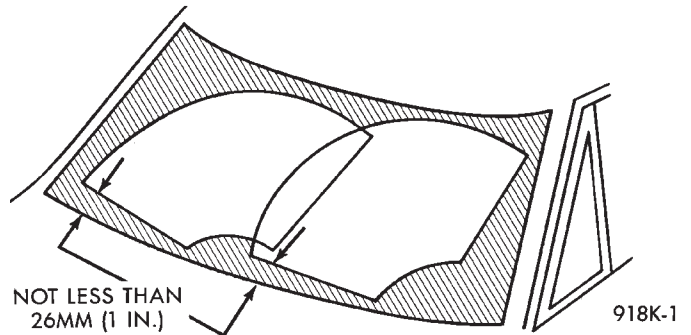

Fig. 6 Windshield Wiper Arm Adjustment
- (1) Cycle the wiper motor into the PARK position.
- (2) Check the tips of the blades in blackout area. From the bottom edge of the windshield to the blade should be no closer than 25 mm (1 inch) (Fig. 6).
- (3) Operate the wipers if the requirements are not met, check linkage and pivot assembly for worn parts.